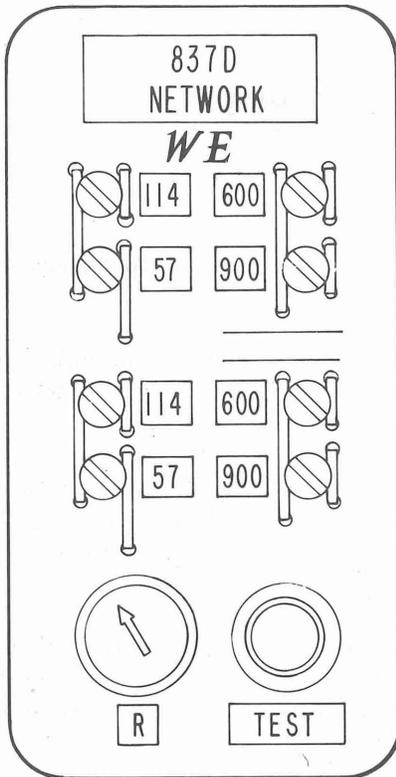

Fig. 1—837D Network
2.03 The front of the network (Fig. 1) contains eight screw type switches, a potentiometer, and a 239C test jack.